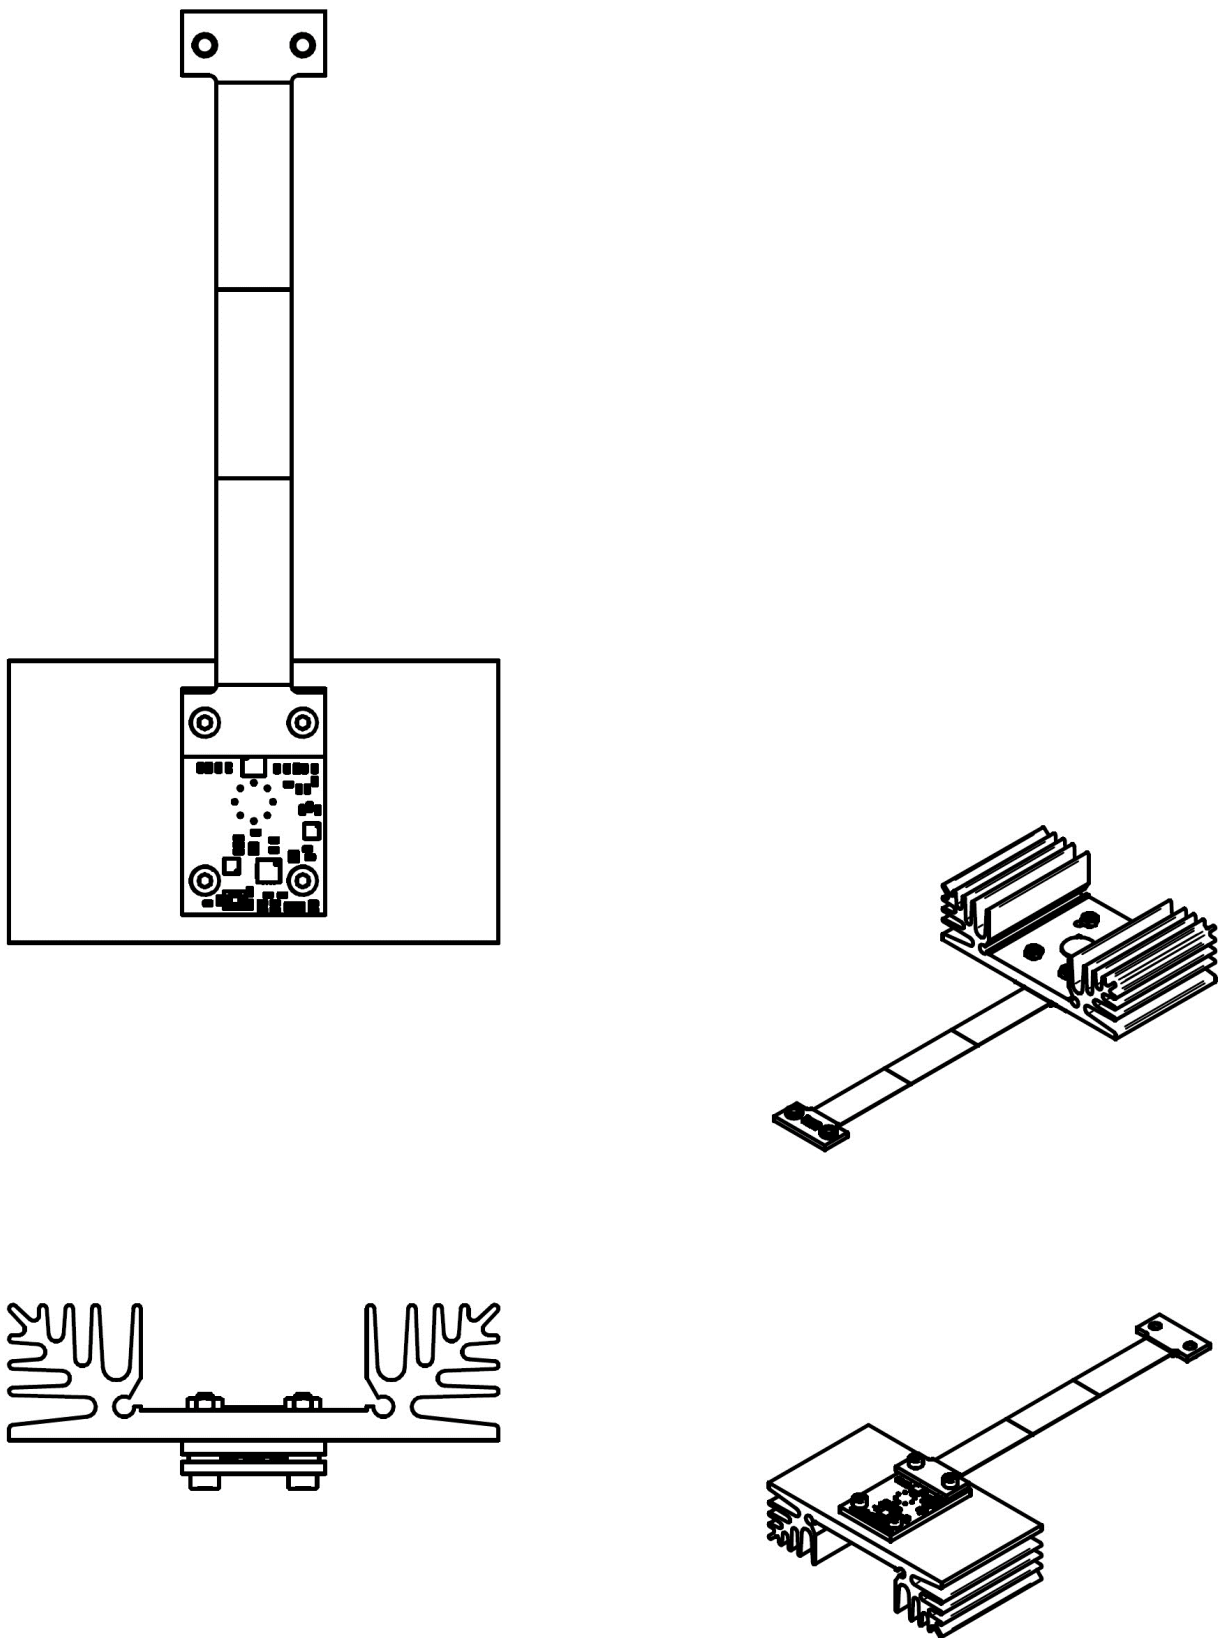

FIGURE 21. Example application AMS3140-01 with flexible PCB
The second source of heat is electronic components on the bottom of the PCB. For applications with high cooling power, it is recommended to leave the bottom side of the module uncovered. An example of such a solution is presented in FIGURE 21.
- Semi-flexible PCB. Receptacle *Amphenol 101R014FB110* has to be placed on the rigid part and the flexible part can be used to connect signals and power supplies to another PCB (FIGURE 21).